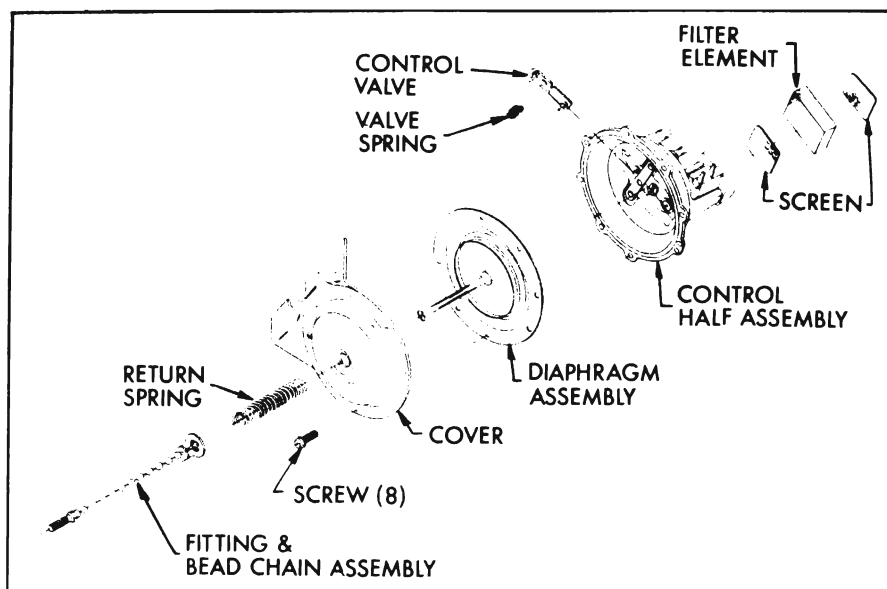

Figure 11-189—Exploded View of Power Unit
5. Depress the diaphragm return spring and remove bead chain by turning fitting 90° and slipping off shaft. See Figure 11-189.